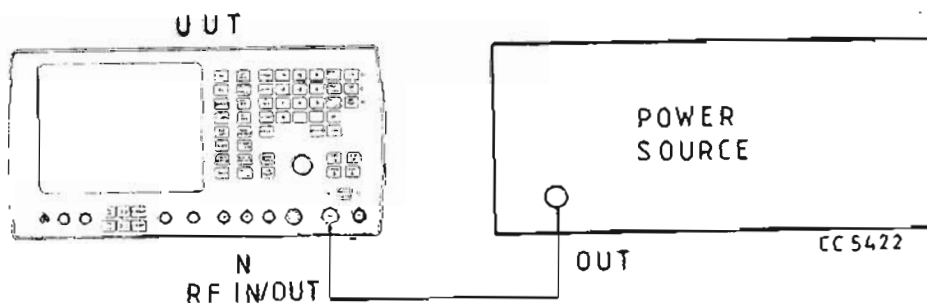

Fig. 9 Test equipment connections for adjusting R106 on AB5
- (1) Connect the equipment as shown in Fig. 9, where the power source is a calibrated one formed from the equipment shown in Chap. 5-1, Fig. 18.